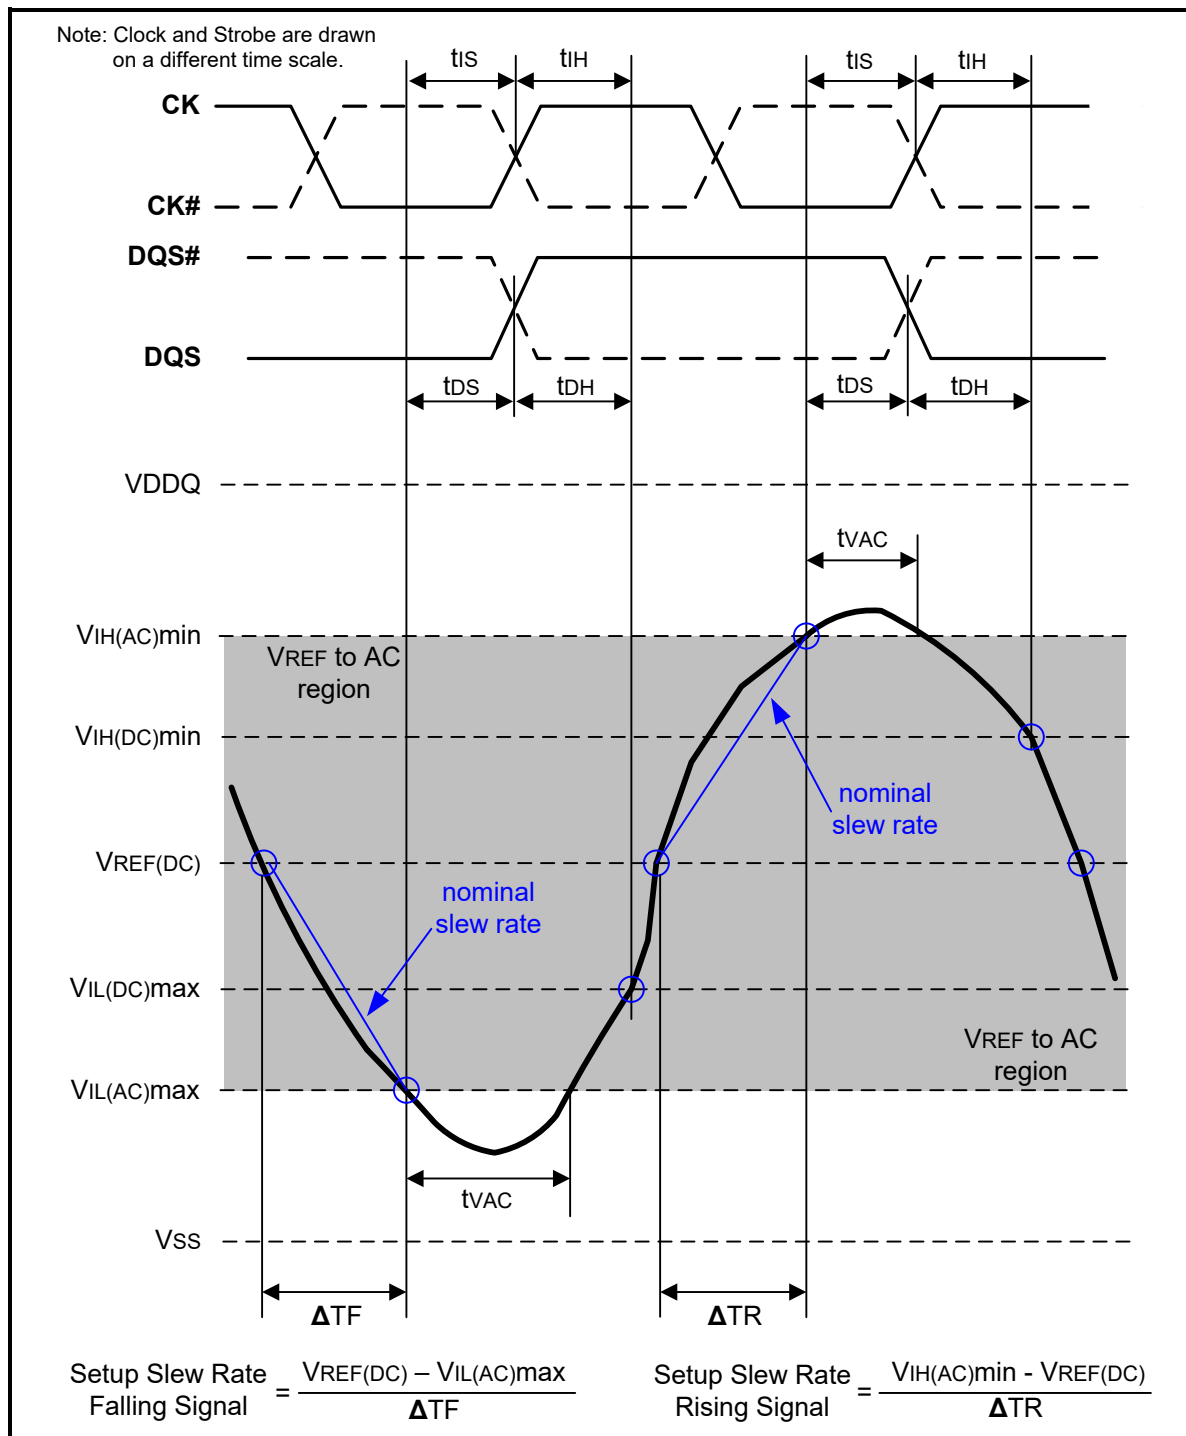
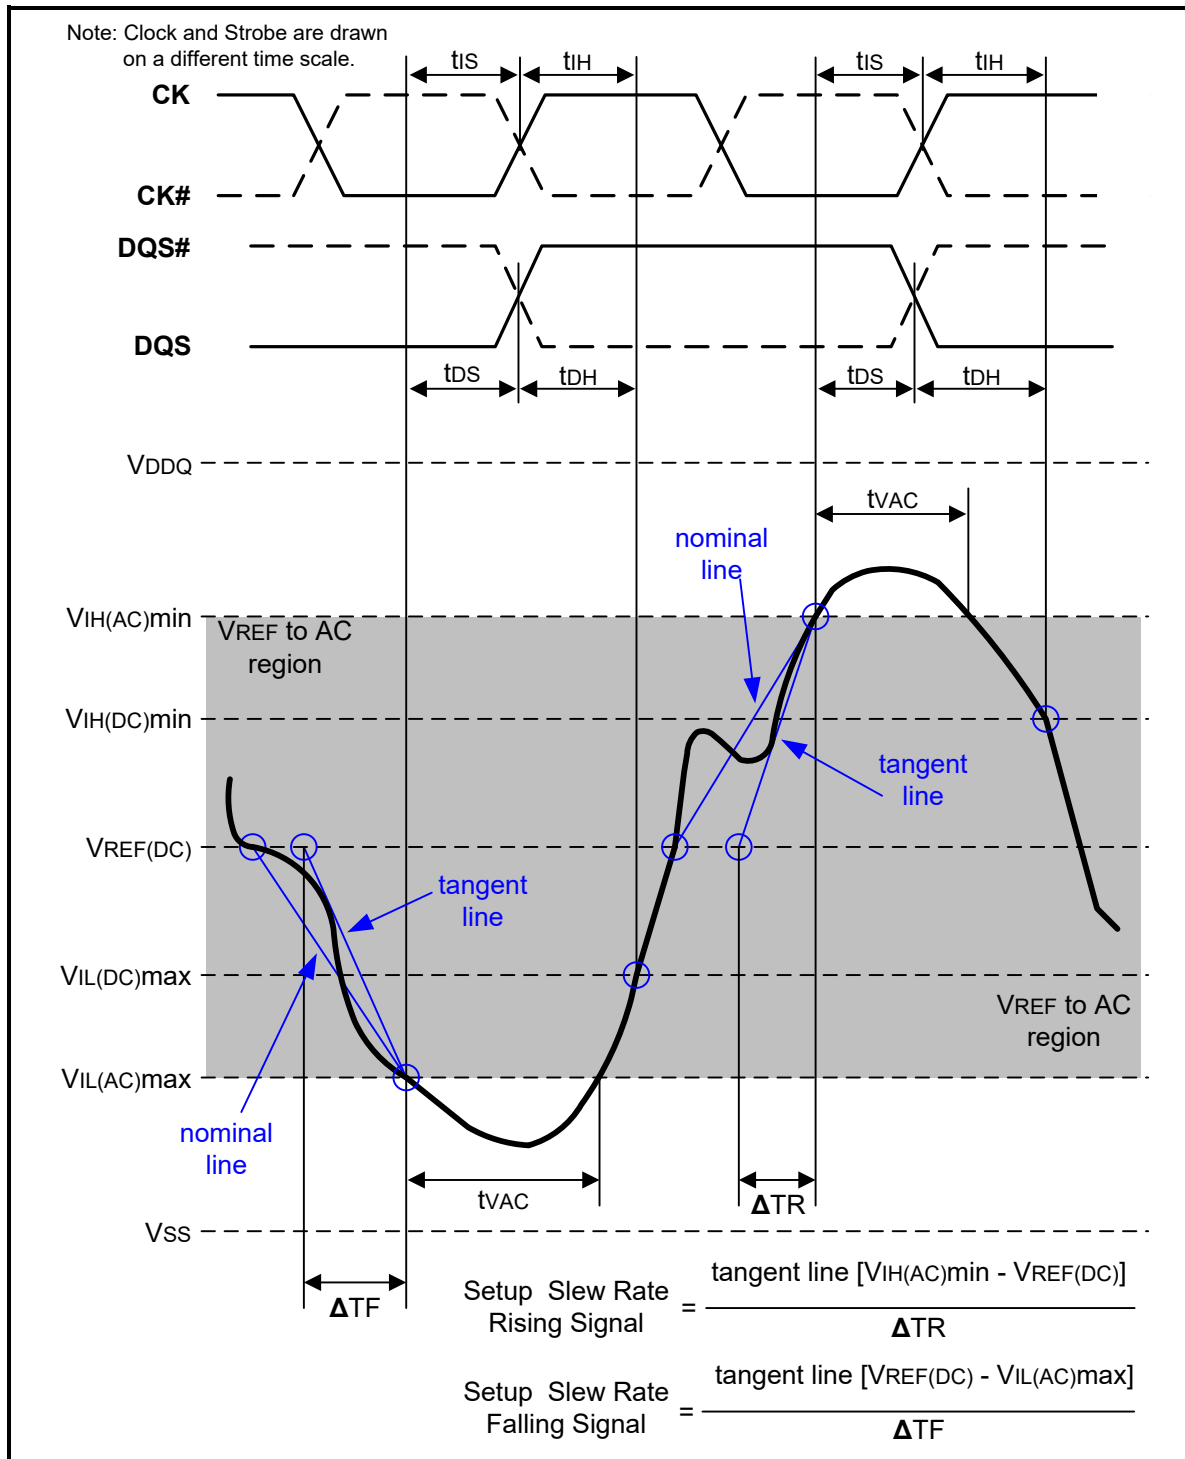

Figure 107 – Illustration of nominal slew rate and tvac for setup time tds (for DQ with respect to strobe) and tis (for ADD/CMD with respect to clock)
Figure 109 – Illustration of tangent line for setup time t_{DS} (for DQ with respect to strobe) and t_{IS} (for ADD/CMD with respect to clock)
Setup (tDS) nominal slew rate for a rising signal is defined as the slew rate between the last crossing of VREF(DC) and the first crossing of VIH(AC)min. Setup (tDS) nominal slew rate for a falling signal is defined as the slew rate between the last crossing of VREF(DC) and the first crossing of VIL(AC)max (see Figure 107). If the actual signal is always earlier than the nominal slew rate line between shaded 'VREF(DC) to AC region', use nominal slew rate for derating value. If the actual signal is later than the nominal slew rate line anywhere between shaded 'VREF(DC) to AC region', the slew rate of a tangent line to the actual signal from the AC level to VREF(DC) level is used for derating value (see Figure 109).